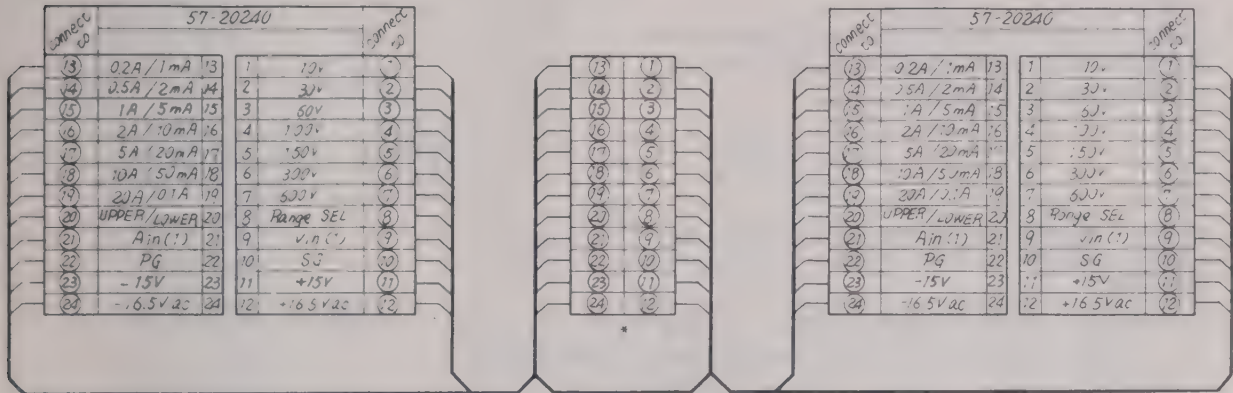

Fig. 2-10 Connecting Cable for Test
Because it is desirable to adjust this assembly in an ambient temperature equivalent to actual instrumentation, it is preferable to apply an input voltage to the PCB-Ass'y through a connecting cable specially designed for this purpose rather than through the extender board employed previously. Manufacture the connecting cable for test referring to Fig. 2-10. The cable is also usable for adjusting
1. Interconnect the Type 2504 mainframe equipped with the five assemblies adjusted as above (POWER SUPPLY, DISPLAY, A/D CONVERTER, DUAL RMS CONVERTER and MULTIPLIER) in place and the INPUT MODULE by means of the connecting cable for test illustrated in Fig. 2-10, and allow the instrument an approximately 20-minute warmup.
2. Adjust zero by R8 **V-ADJ** on the PCB Ass'y: AS B9254BK mounted on the Type 2514 so that reading on the Type 2501 connected between intermediate check terminals (9) and (10) of the cable for test, or between Vin and S.G., will be minimum.
3. In the same way, adjust zero by R9 **A-ADJ** so that reading on the Type 2501 connected between intermediate check terminals (21) and (10), or between Ain and S.G., will be minimum.